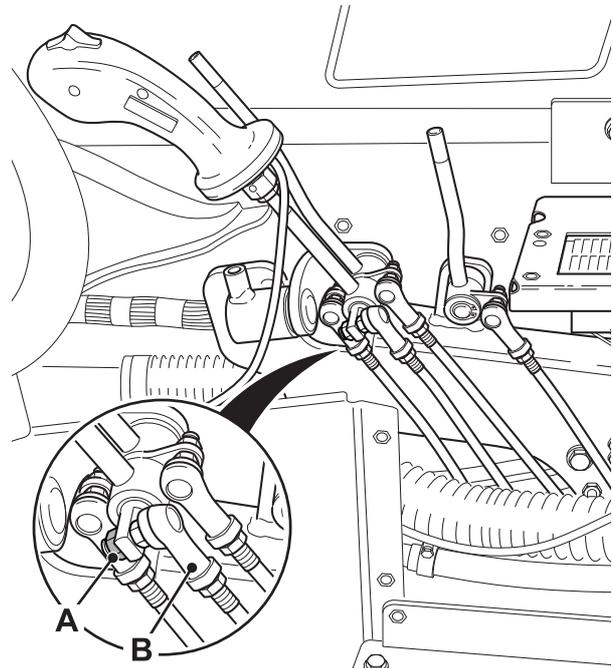

Fig 6.
- 4 Remove the nut (A) from the ball joint (B). → Fig 6. \(□ D-7\).
- 5 Remove the clip (C) and pin (D) from the clevis (E). → Fig 6. \(□ D-7\).